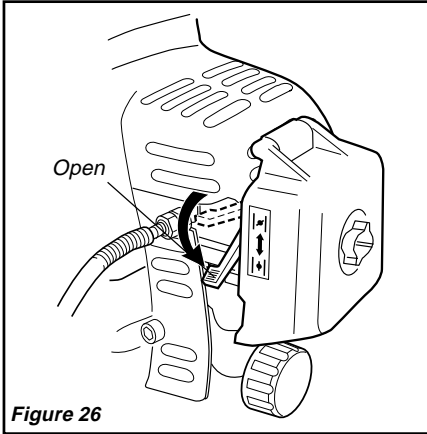

Figure 26
5. When the engine starts, slowly move the choke lever to the "OPEN" position. See Figure 26. (If the engine stops after the initial start, close the choke and restart.)